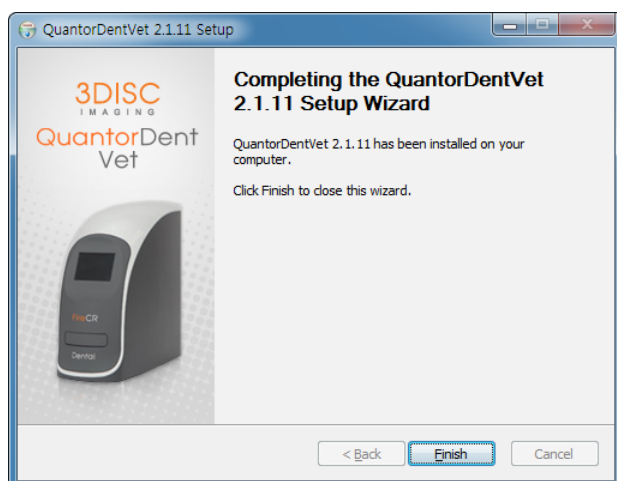

Figure 2.8 Installation Finish Dialog Box
- If installation is successful, Figure 2.8 will show up.